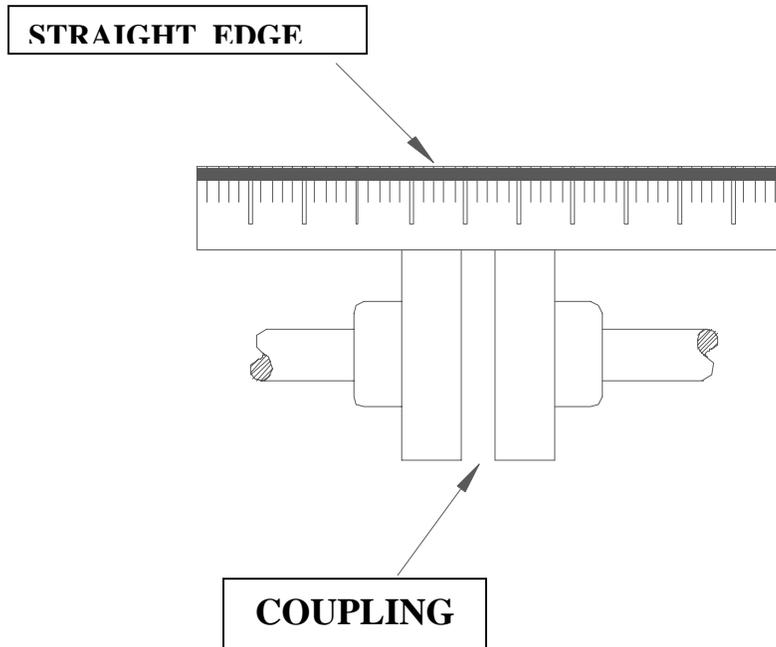

Figure 3
2. Place a straight edge across the coupling. It should rest evenly on both rims at the 3, 6, 9, and 12 o'clock positions. See figure 3.